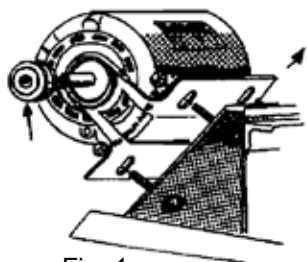

Fig. 1
- Secure motor to motor mount with bolts provided. (Fig. 1)